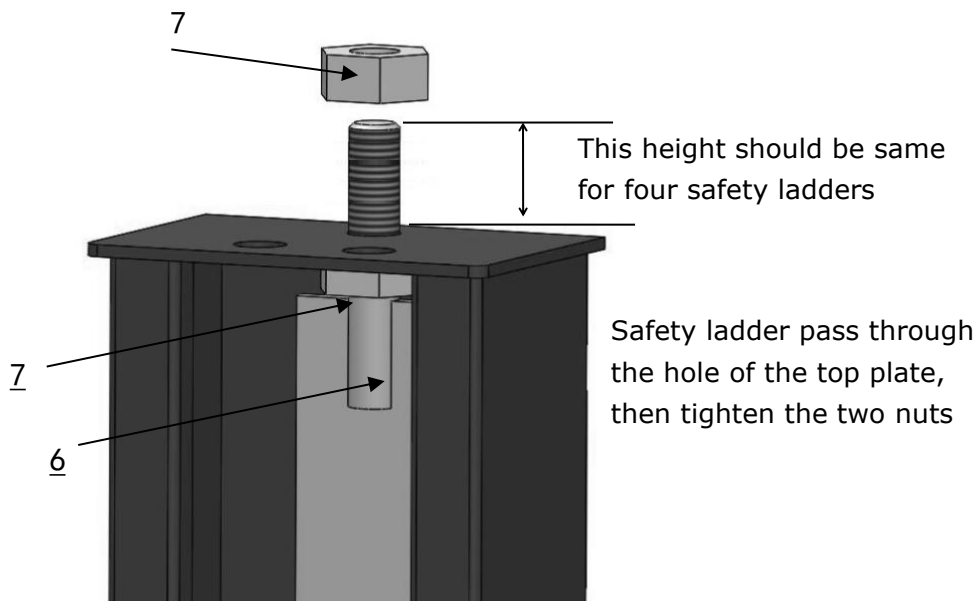

Fig. 18
2. Install safety ladders (See Fig. 18)